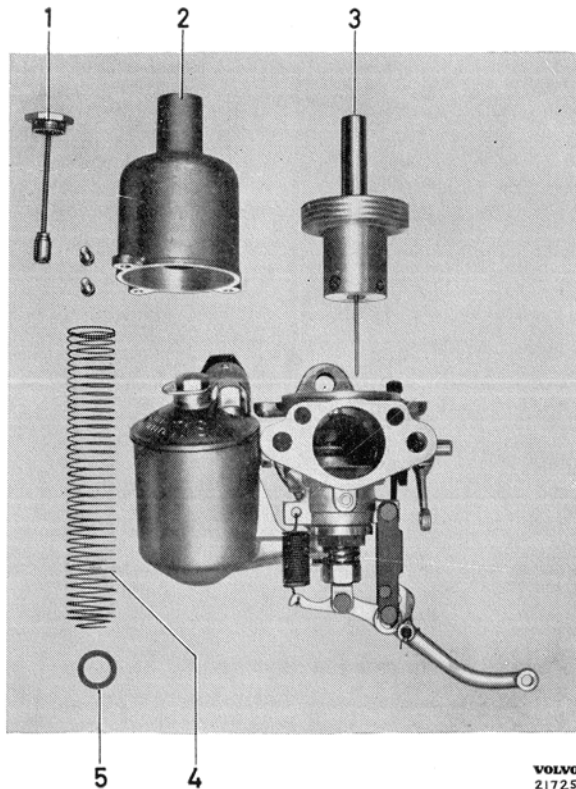

Fig. 14. Suction chamber dismantled.
1. Remove the damper (1 Fig. 14) from the suction chamber.